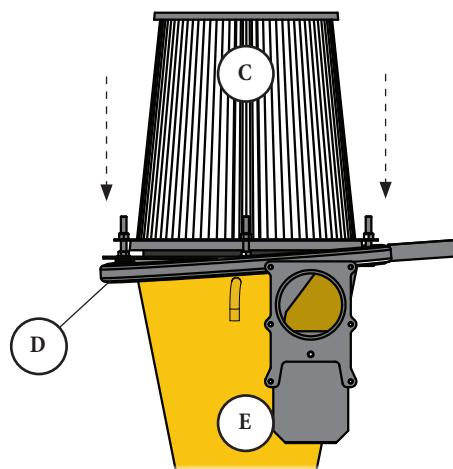

FIG. 17
17 Open and slide the Ring Clamp (D) over the assembly so that it rests outside the upper flange of the Cyclone (E) [FIG. 17].